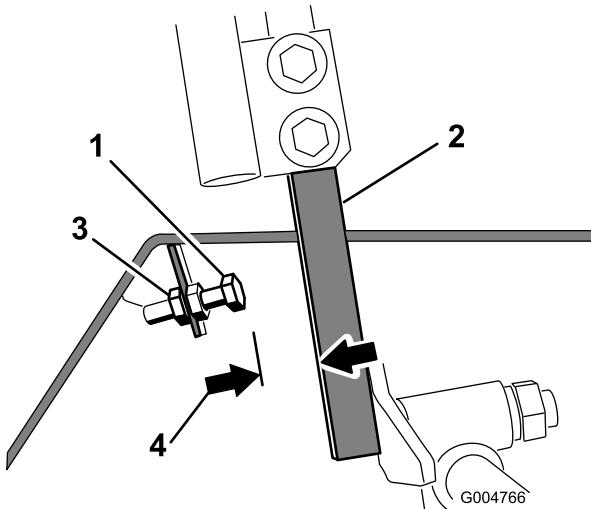

Figure 66
4. Loosen the jam nut on the stop bolt for one of the control levers (Figure 66).